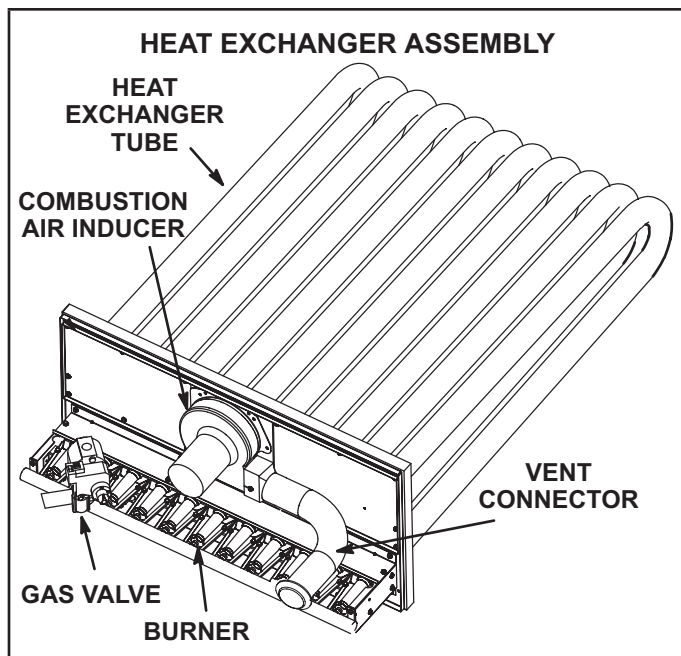

FIGURE 36
- 3 - Remove and retain screws securing combustion air inducer to flue box. Remove vent connector. See FIGURE 36.